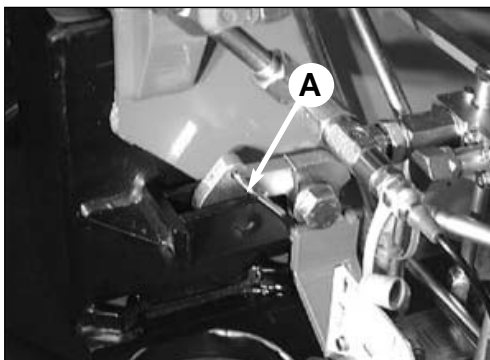

fig. 23
- Disengage the locking devices of the outrigger supports by putting the levers **A** from the position of the fig. 23 to the one of the fig. 23a.
Under no circumstances put the hands on the locking devices of the outrigger supports; the device re-hook (lever **A** from position of fig. 23b to fig. 23) is automatic.
(!) Always check that the outriggers supports, once in their rest position, are locked in their seat by the safety devices, so as to assure the impossibility of accidental movement. (Fig. 23)